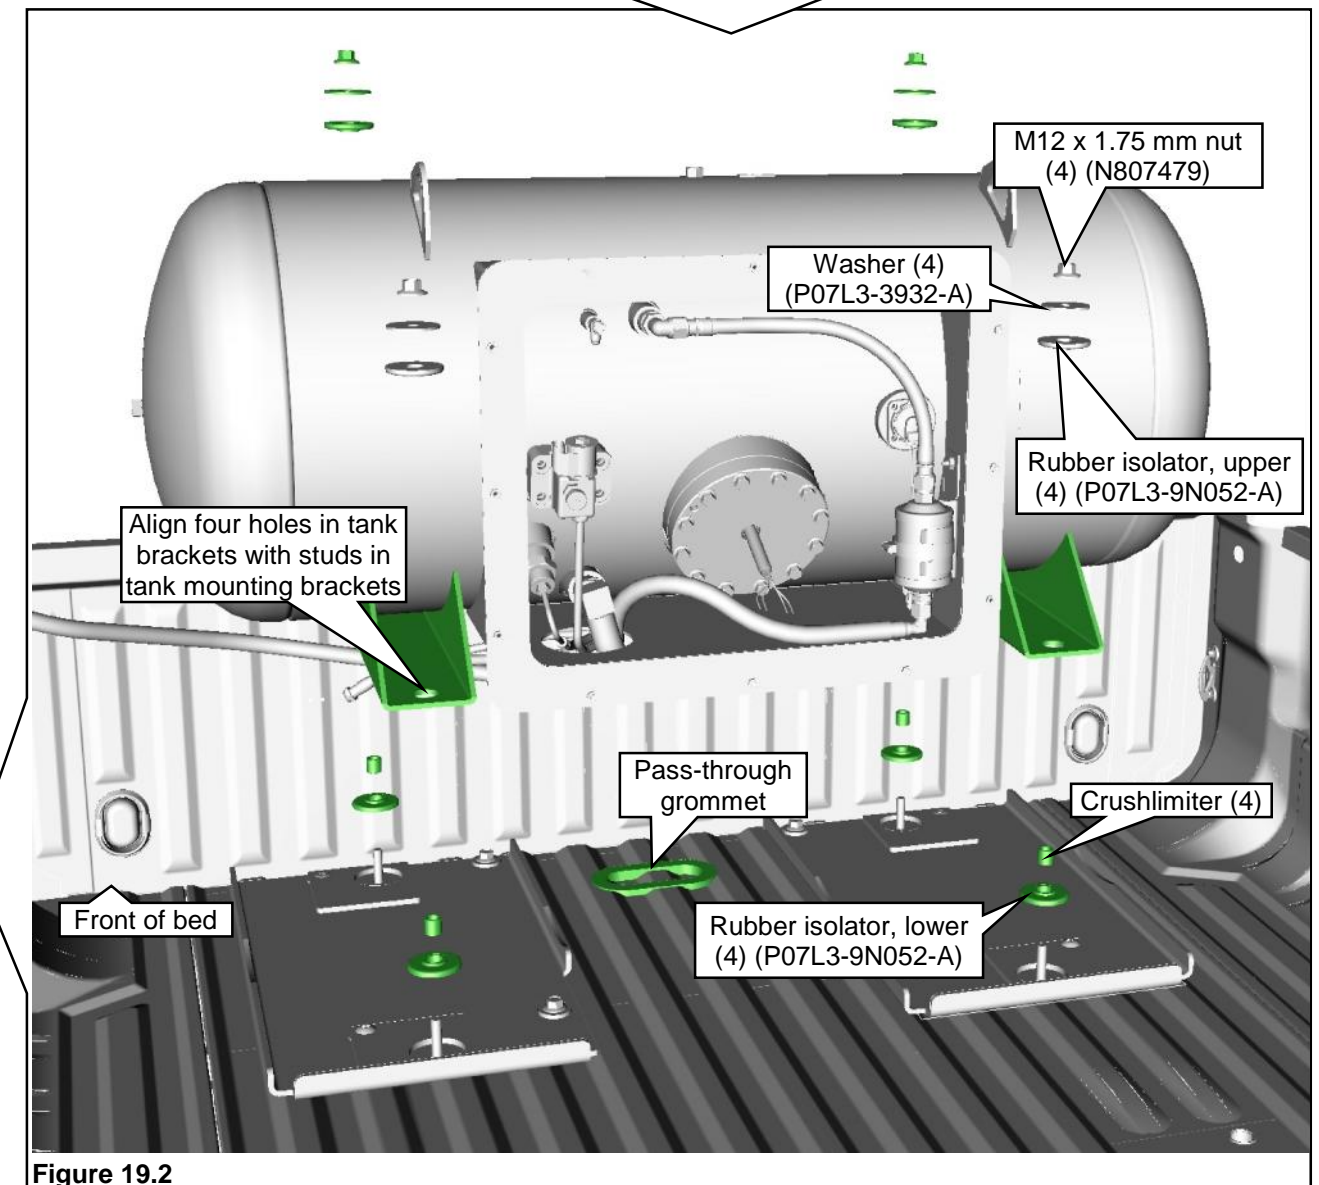

Figure 19.2
3. Position the fuel tank over the bed. Align the four mounting holes in the tank brackets with the tank mounting bracket studs. Carefully lower the tank onto the floor brackets, making sure the tank is firmly seated and all four holes are aligned with the four studs. **Note:** Make sure the tank is lowered straight down over the studs and that the pressure relief hose, fuel lines, fill line and wiring harness drop through the pass-through grommet in the bed. **Figures 19.2.** **Note:** These steps require an assistant to help install the tank and mounting hardware.